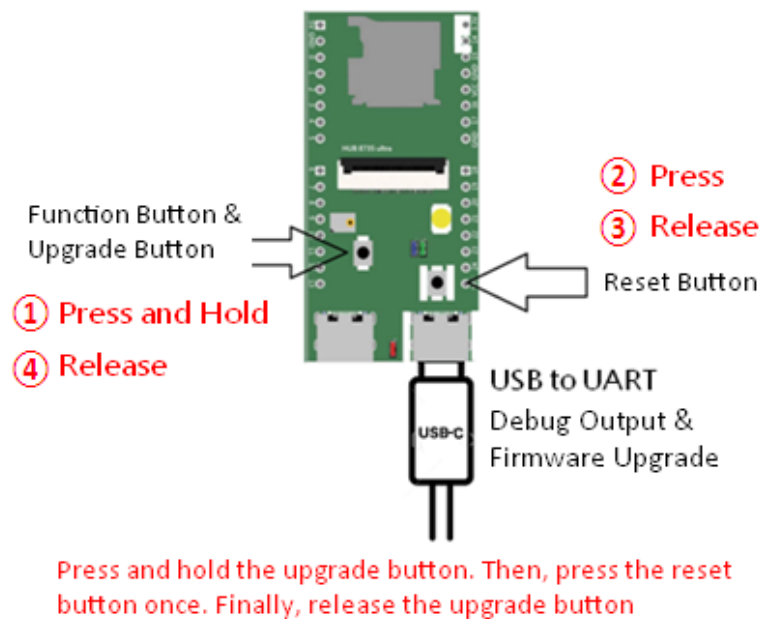

Figure 13 · Enable Firmware Upgrade mode
(4) HUB 8735 Ultra Firmware Upgrade
Please accomplish the COM port setting first (Refer (3) HUB8735 Ultra Debug Output). After COM port connection is ready, we can start to upgrade the firmware now. First, long press and hold the upgrade button, then short press the reset button to reset the hardware board. Now, the hardware board should enter the upgrade mode and you can release the upgrade button (Figure 13).